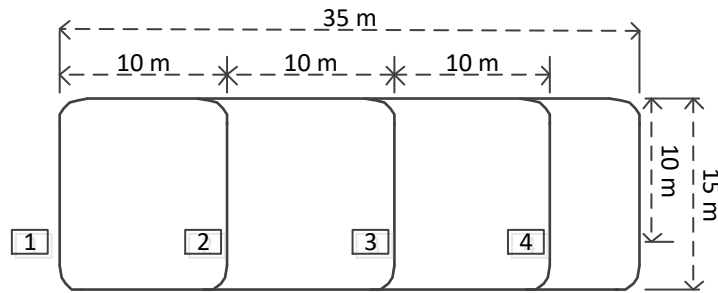

Figure 3(c)
- (c) A flexible manufacturing system (FMS) is being planned. It has a ladder layout as shown in Figure 3(c), and use a rail guided vehicle (RGV) system to move parts 14